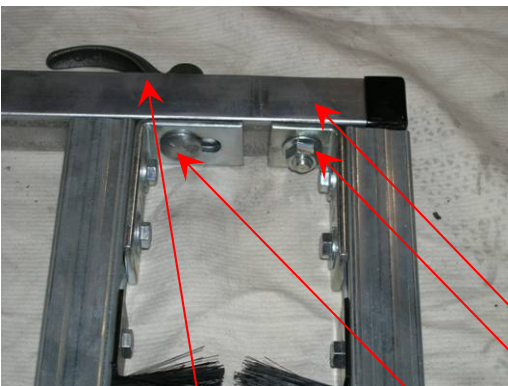

Fig: 17.2
- 17.2 Line up Brush Arm bolt holes with the holes in the Pre-Assembled Brush Section brackets. Fig: 17.2. The curve of the brush arm should be pointing up.
- 17.3 Bolt Brush Arm on the Lower Pre-Assembled Brush bracket using one (1) Carriage bolt (E) and Adjustment Handle with Lock Washer (J) as shown in Fig. 17.2
- 17.4 Bolt remaining bracket with one (1) 1/2" x 2 1/2" Hex (F). Head Bolt with 1/2" locknut (I) and as shown in Fig: 17.2.